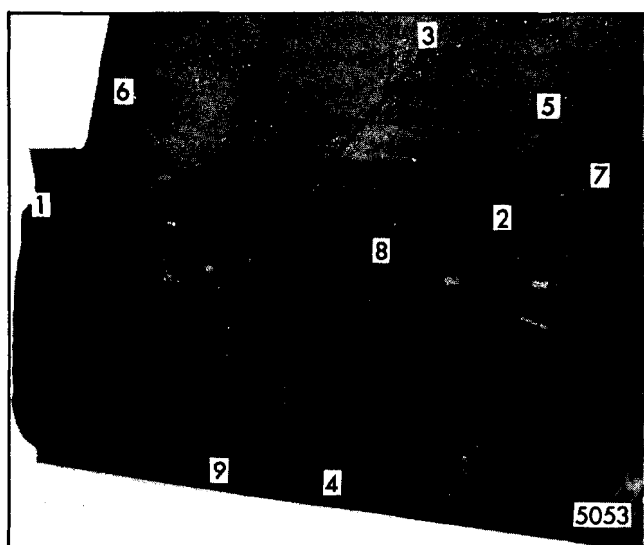

Fig. 6-91-Window Removal and Adjustment
2. Remove window front and rear up-travel stops ("1" and "2", Figure 6-91).
3. Loosen window front and rear stabilizer strip ("3", Figure 6-91).
4. With window in three-quarter-down position, remove lower sash channel cam to glass attaching nuts ("4", Figure 6-91). Remove window by lifting straight up and aligning rollers with notches provided in the door inner panel.
- In and out adjustment of the glass is controlled by the in and out adjustment available at the top of the front and rear guides ("5" and "6", Figure 6-91) and the in and out position of the glass stabilizer strip ("3", Figure 6-91). Outboard adjustment of the guides moves the top of the glass inboard. Conversely, inboard adjustment moves the top of the glass outboard.